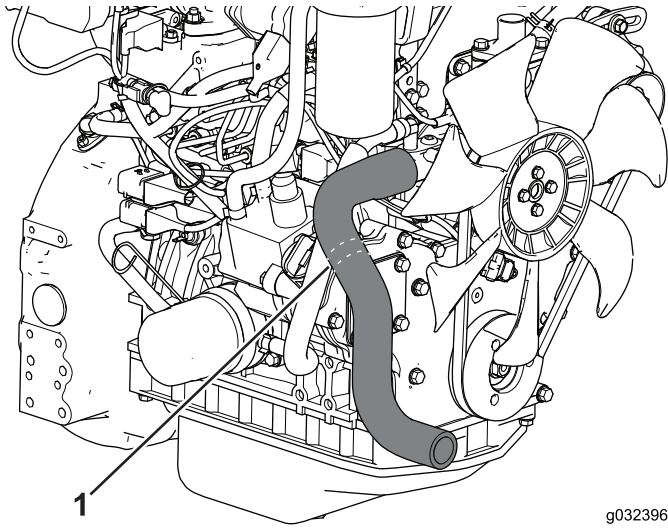

Figure 10
1. Locate the radiator hose (Figure 10).
2. Use a cutting tool to cut the radiator hose at the cut lines (Figure 10).